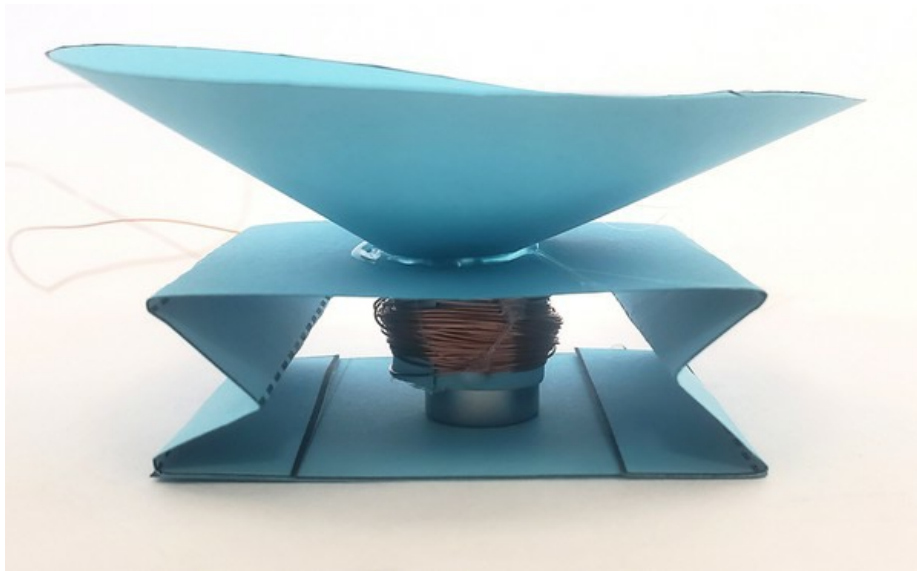

Figure 20. Magnet inserted into wire coil.
19) Gently pull the top and bottom parts of the speaker apart, far enough that you can slide the magnet inside the coil, then let go and put the speaker down. The coil should sit over the magnet with the magnet resting on the base of the speaker (Figure 20). You do not need to glue the magnet in place—it is heavy enough that it will be held in place by its own weight. This allows you to easily remove it if you decide to test another speaker.